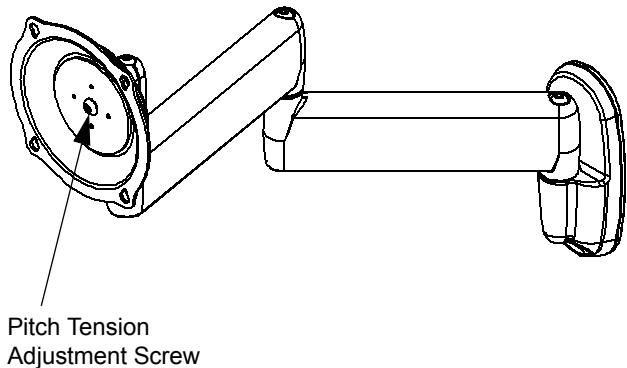

Figure 13: Pitch Adjustment
1. Check adjustment screw on the Centris interface to ensure that the screw is tight. (see figure 13)
2. If needed, use a 3/16" hex wrench (170) to tighten the screw.